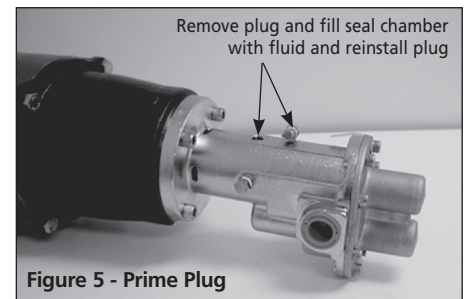

Figure 5 - Prime Plug
to be filled (See Figure 5). Never operate a pump unless it is secured to a solid foundation and all safety shields are installed.
a. For fluids with viscosities less than 2000 SSU, a flush is not necessary, but the seal cavity must be pre-filled with either the operating fluid or a neutral fluid. This is to ensure seal cooling and lubrication during start-up (See Figure 5).